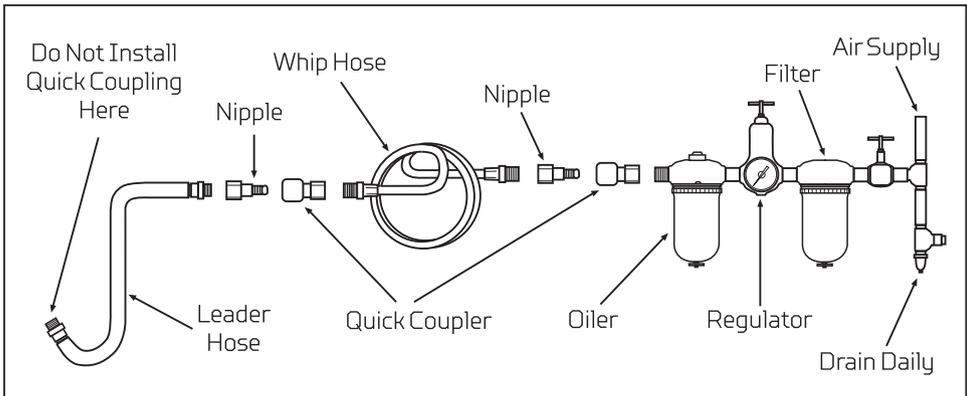

FIG.1
2. Always use clean, dry air. Dust, corrosive fumes and/or water in the air line will cause damage to the tool. Drain the water from air lines and compressor prior to running tool. Clean the air inlet filter screen weekly. The recommended hookup procedure can be viewed in FIG.1.